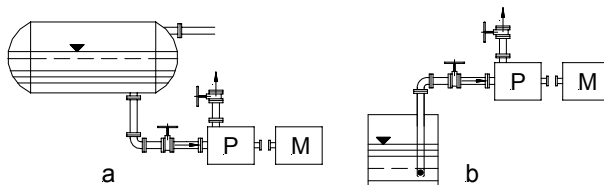

Figure 4: Installation in pipelines.
- A foot valve should be used in suction mode (Figure 4).